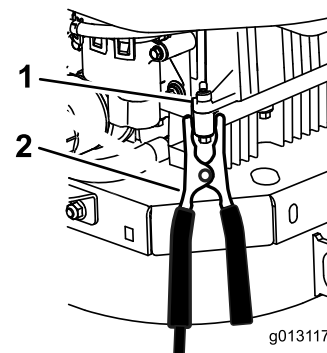

Figure 48
6. Make the final connection on the **engine block** (not on the negative battery post) of the machine with the discharged battery, away from the battery, and stand back (Figure 48).